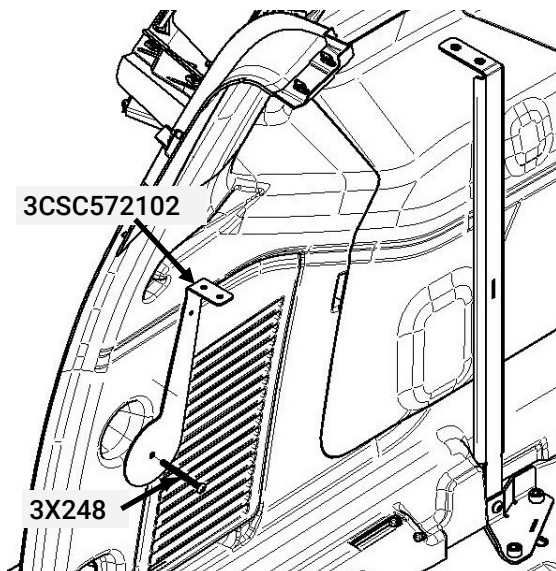

Figure 8
- A. Unscrew and remove the cargo tie-down on the driver side, near the hatch, and fasten rear support bracket [3CSC572102] using M6x60mm Phillips head screw [3X248] as shown (Figure 8).